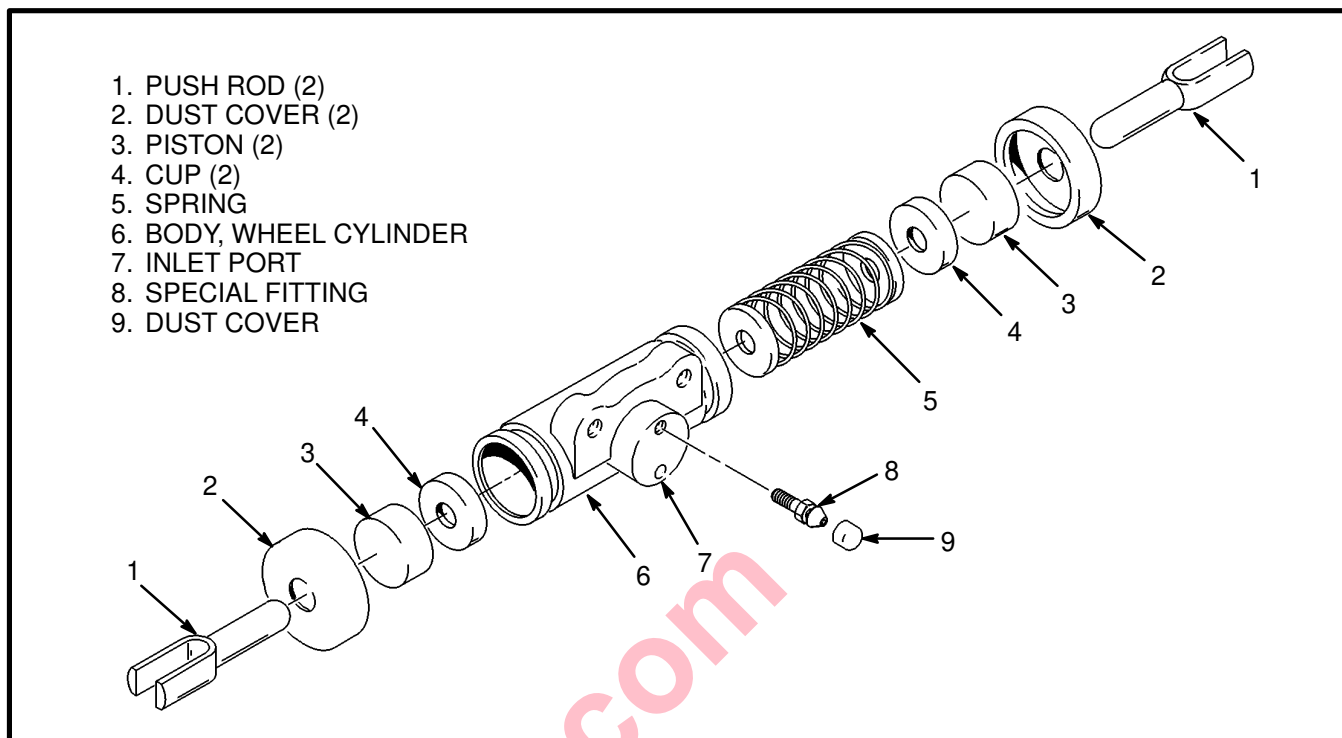

FIGURE 5. WHEEL CYLINDER
10. Make a note of the arrangement of parts and disassemble the brake assembly. Remove the parking brake link (16) and spring (17) if they are still engaged with brake shoes. The parking brake link and spring will often fall from the brake assembly when the brake assembly is removed from the back plate. The adjuster wheel (12) will also disengage from the brake shoes after the brake assembly is removed.
11. Remove the spring (14) for the adjuster wheel actuator (11). Remove the adjuster wheel actuator (11) from the brake shoe. Loosen the nut and remove the anchor (22) and spacer (23) from the brake shoe.
12. Use a screwdriver or small prybar to move apart the ends of the retainer (19). Remove the spring washer (19) and pivot pin (19) to remove the parking brake lever (18) from the brake shoe (15).
13. Disconnect the brake line from the wheel cylinder (1). Remove the capscrews that hold the wheel cylinder to the back plate and remove the wheel cylinder.
14. See FIGURE 5. Remove the push rods, dust covers, pistons, cups, and spring from the wheel cylinder.